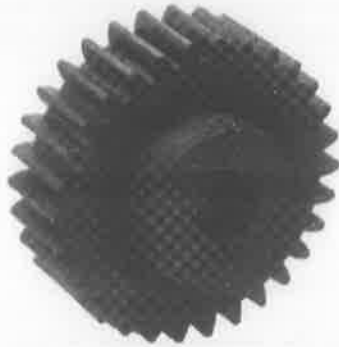

Fig.16 (a) Spur gear
16. (a) With a neat sketch, Discuss the process of generating a spur gear shown in Fig.16 (a) by Gear Hobbing process.